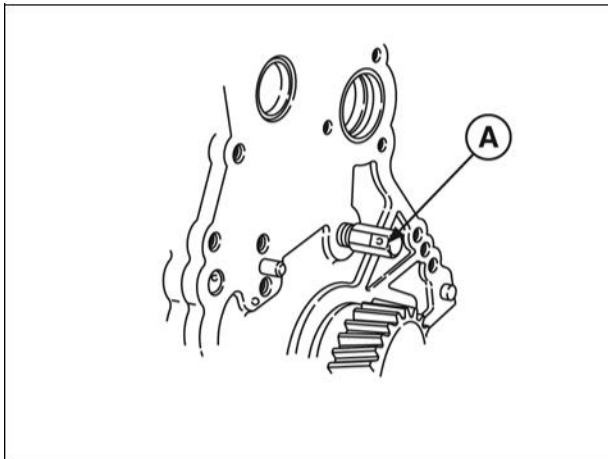

Figure 11
4. Remove timing gear oil nozzle (A, Figure 11).